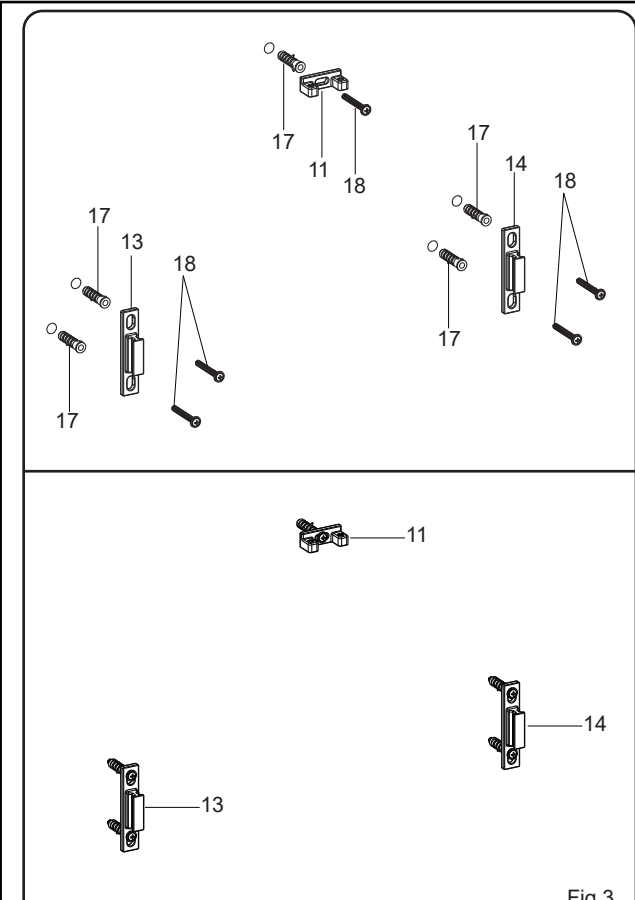

Fig.3
2. As Fig.3 shown, insert the anchors(17) into the holes. Tighten the screws(18) with a screwdriver(not provided) in order to secure the wall bases(11, 13, 14).